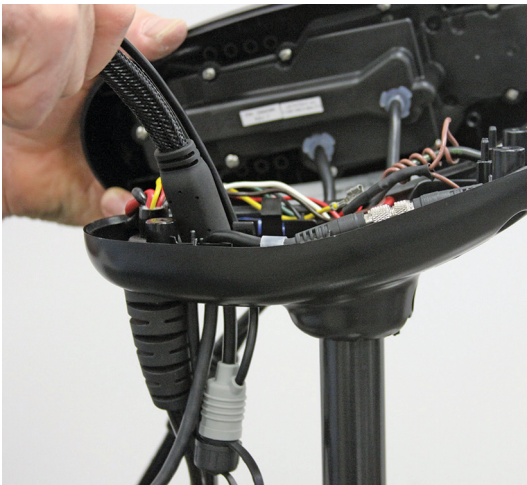

FIGURE 17
7. Route the i-Pilot Link controller cable through the grommet hole and through the center of the coil cord (Figure 17).